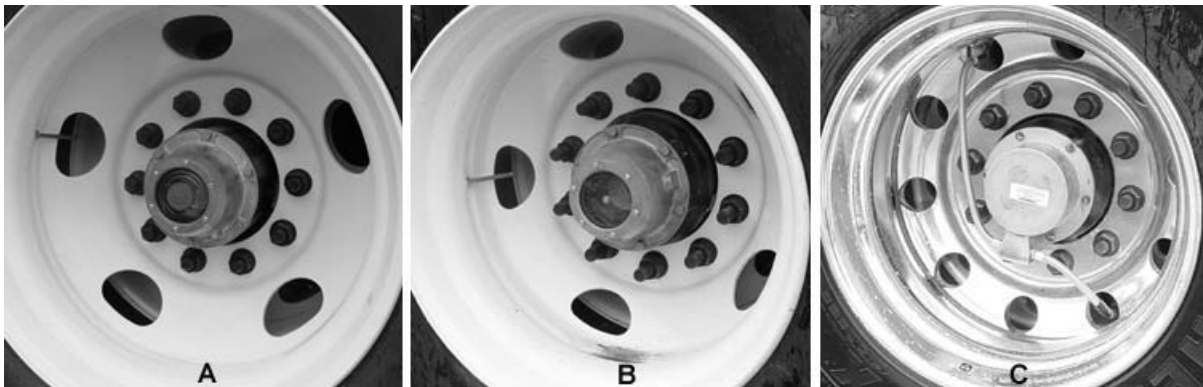

Figure 8-2 – Wheel End Options
Your trailer may be equipped with oil bath (A), grease packed (B) or Hendrickson Long-Lift System™ (HLS™) (C) wheel ends. See Figure 8-2.